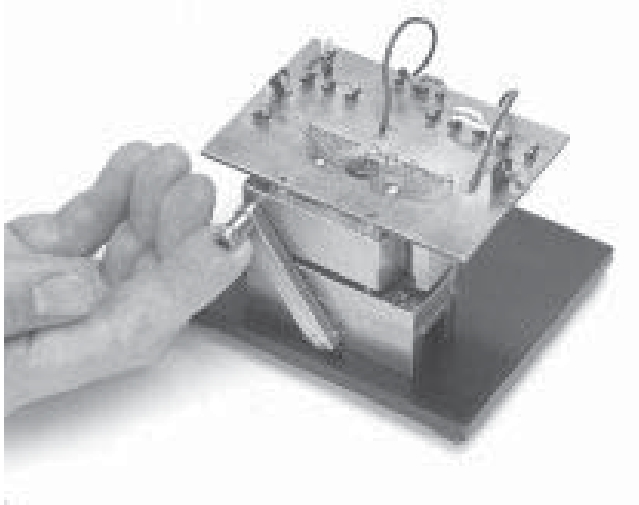

Figure 2: Unlocking Test Fixture
2. Turn the lever to its left-most position (toward the Sound Design Technologies logo on the circuit board) to raise the upper half of the fixture (see Figure 2).